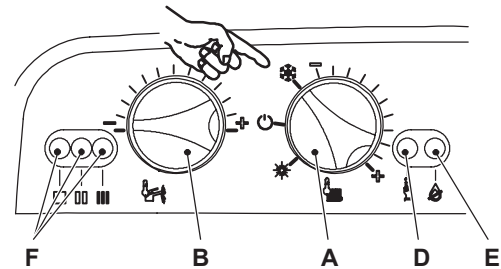

Figure 10.18
- Turn the boiler OFF and ON positioning the function selector knob A as indicated in Figure 10.18